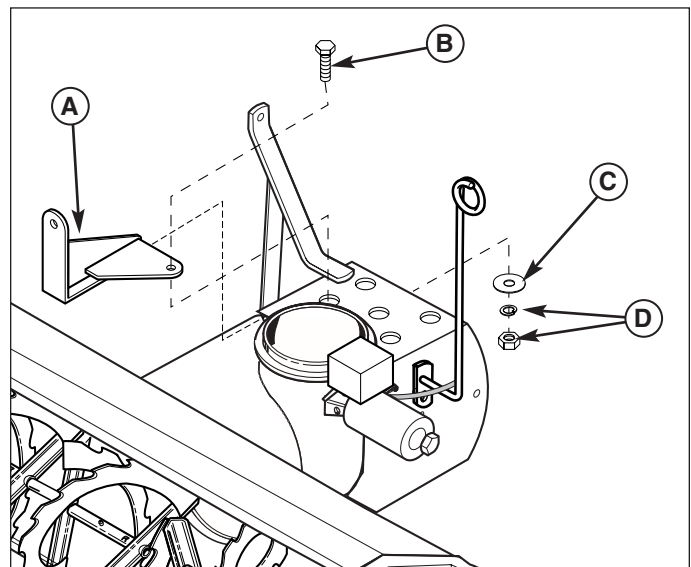

Figure 23. Install Lift Assist Bracket
1. Mount the lift assist bracket (A, Figure 23) to the snowthrower. Slide the bracket back so that it engages the snowthrower housing. Secure using a 5/16-18 x 1 capscrew (B), large washer (C), lockwasher and nut (D).